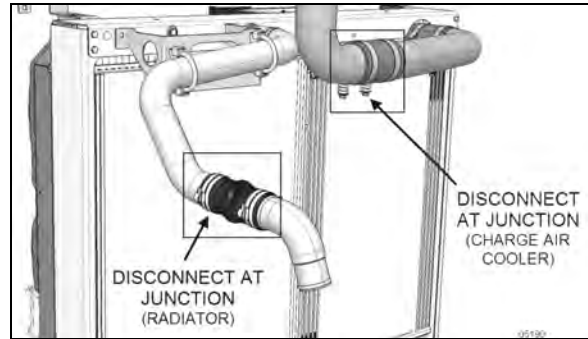

FIGURE 31: RADIATOR & CAC UPPER CONNECTION
- Disconnect the upper radiator pipe *at the pipe junction* between the radiator and the engine (Figure 31).